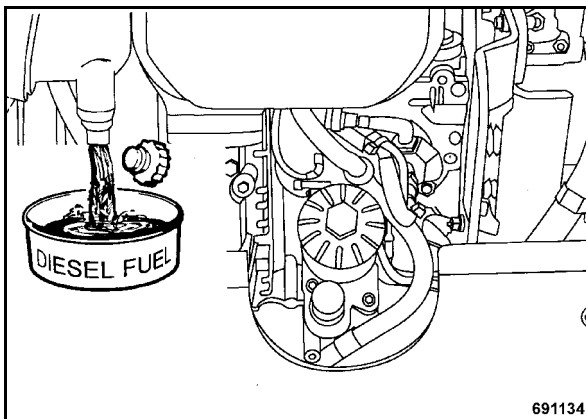

Fig. 50
- Unscrew the drain plug (Fig. 50) underneath the fuel tank, drain off fuel and catch it.